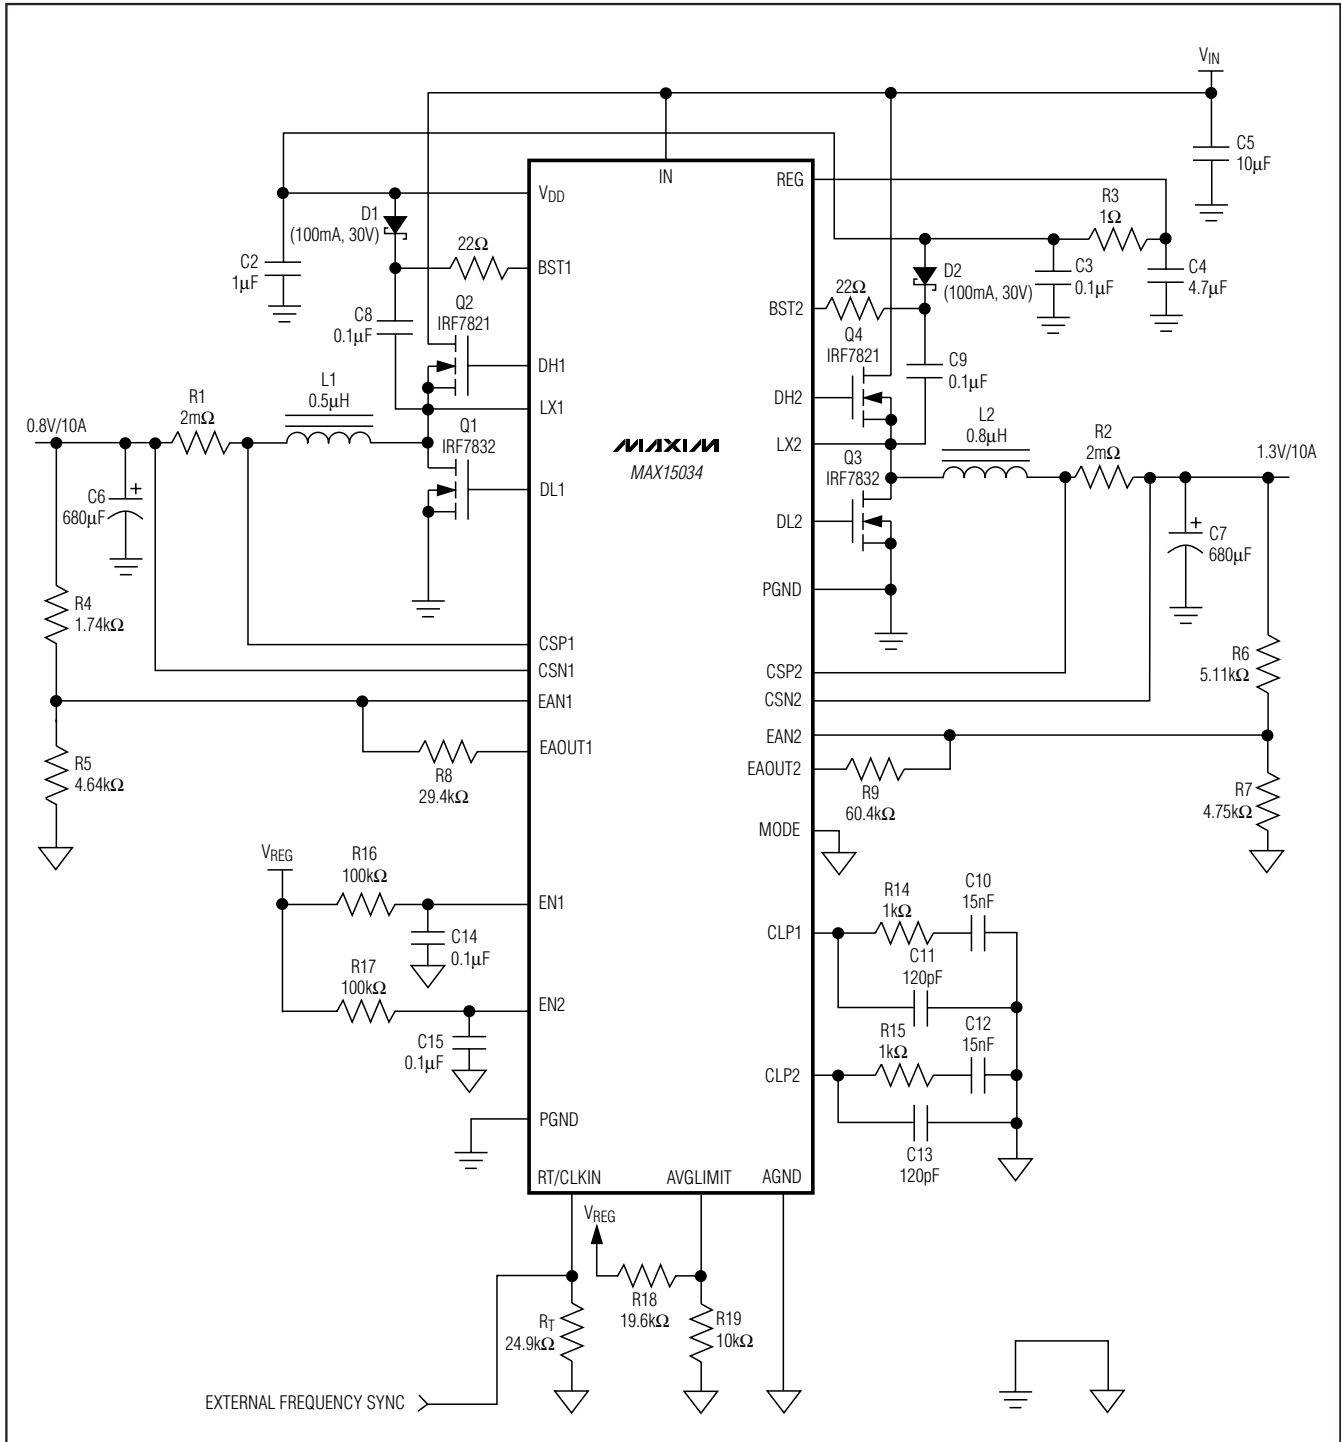
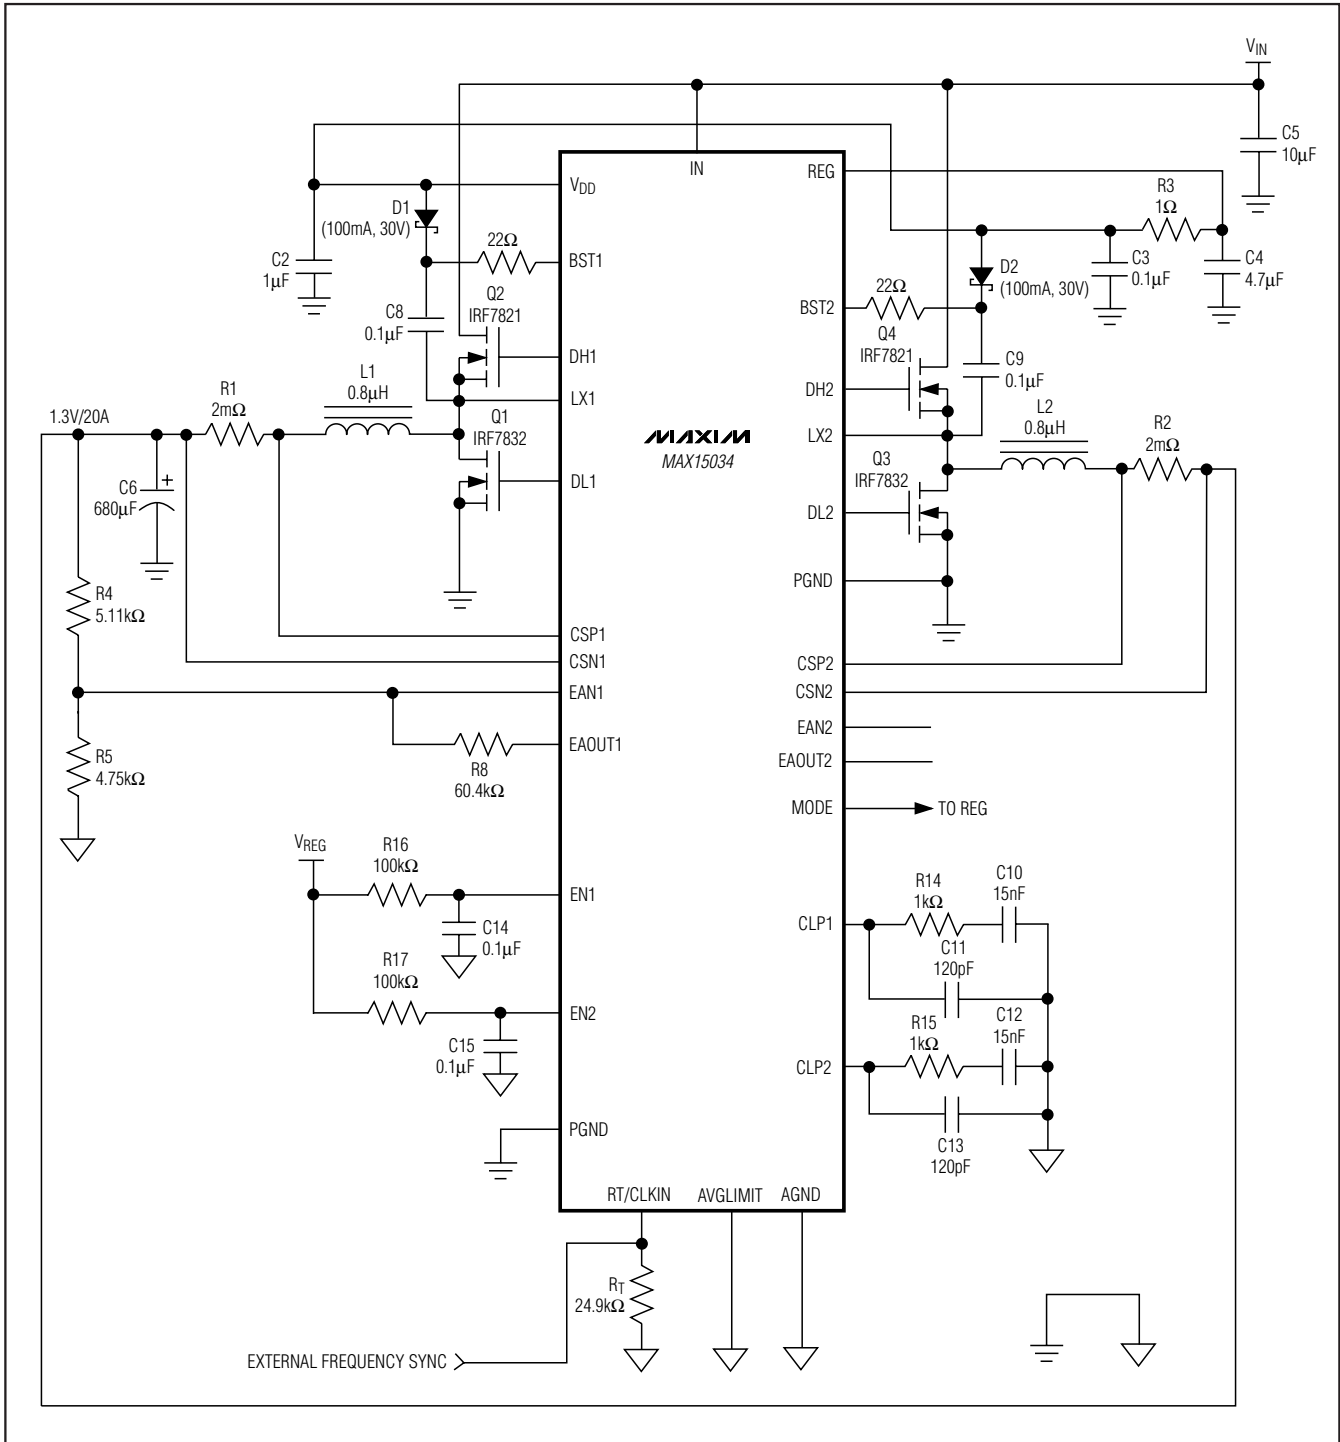

Figure 6. Dual-Output Buck Regulator
Figure 7. Dual-Phase, Single-Output Buck Regulator
where IIN is the quiescent supply current into IN (4mA, typ), QGQ1, QGQ2, QGQ3, QGQ4 are the total gate charges of MOSFETs Q1 through Q4 at VGS = 5V (see Figure 6), and fSW is the switching frequency of each individual phase.
BST1 and BST2 supply the power for the high-side MOSFET drivers for output 1 and output 2, respectively. Connect BST1 and BST2 to VDD through rectifier diodes D1 and D2 (see Figure 6). Connect a 0.1μF ceramic capacitor between BST_ and LX_.
Minimize the trace inductance from BST_ and VDD to the rectifier diodes, D1 and D2, and from BST_ and LX_ to the boost capacitors, C8 and C9 (see Figure 6). This is accomplished by using short, wide trace lengths.
The compensation network at the current-error amplifiers (CLP1 and CLP2) provides an inherent soft-start of the output voltage. It includes (R14 and C10) in parallel with C11 at CLP1 and (R15 and C12) in parallel with C13 at CLP2 (see Figure 6). The voltage at the current-error amplifier output limits the maximum current available to charge the output capacitors. The capacitor at CLP_ in conjunction with the finite output-drive current of the current-error amplifier yields a finite rise time for the output current and thus, the output voltage.
An internal oscillator generates the 180° out-of-phase clock signals required for both PWM modulators. The oscillator also generates the 2VP-P voltage ramps necessary for the PWM comparators. The oscillator frequency can be set from 200kHz to 2MHz by an external resistor (RT) connected from RT/CLKIN to AGND (see Figure 6). The equation below shows the relationship between RT and the switching frequency:
cycle is less than 50%, choose high-side MOSFETs (Q2 and Q4, Figure 6) with a moderate $R_{DS(ON)}$ and a very low gate charge. Choose low-side MOSFETs (Q1 and Q3, Figure 6) with very low $R_{DS(ON)}$ and moderate gate charge. The driver block also includes a logic circuit that provides an adaptive nonoverlap time (30ns typ) to prevent shoot-through currents during transition. Figure 7 shows the dual-phase, single-output buck regulator.
where I_{MAX} is the full load current of the regulator. V_{OUT} is the output voltage of the same regulator and C_{IN} is C5 in Figure 6. The ESR of the input capacitors wastes power from the input and heats up the capacitor. Reducing the ESR is important to maintain a high overall efficiency and in reducing the heating of the capacitors.
where I_{LOAD_STEP} is the step in load current and $t_{RESPONSE}$ is the response time of the controller. Controller response time depends on the control-loop bandwidth. C_{OUT} is C6 and C7 in Figure 6.
where ΔV_{OUT} is the allowable drop in voltage from no load to full load. R_F is R_8 and R_9 , R_1 is R_4 and R_6 , R_2 is R_5 and R_7 in Figure 6.